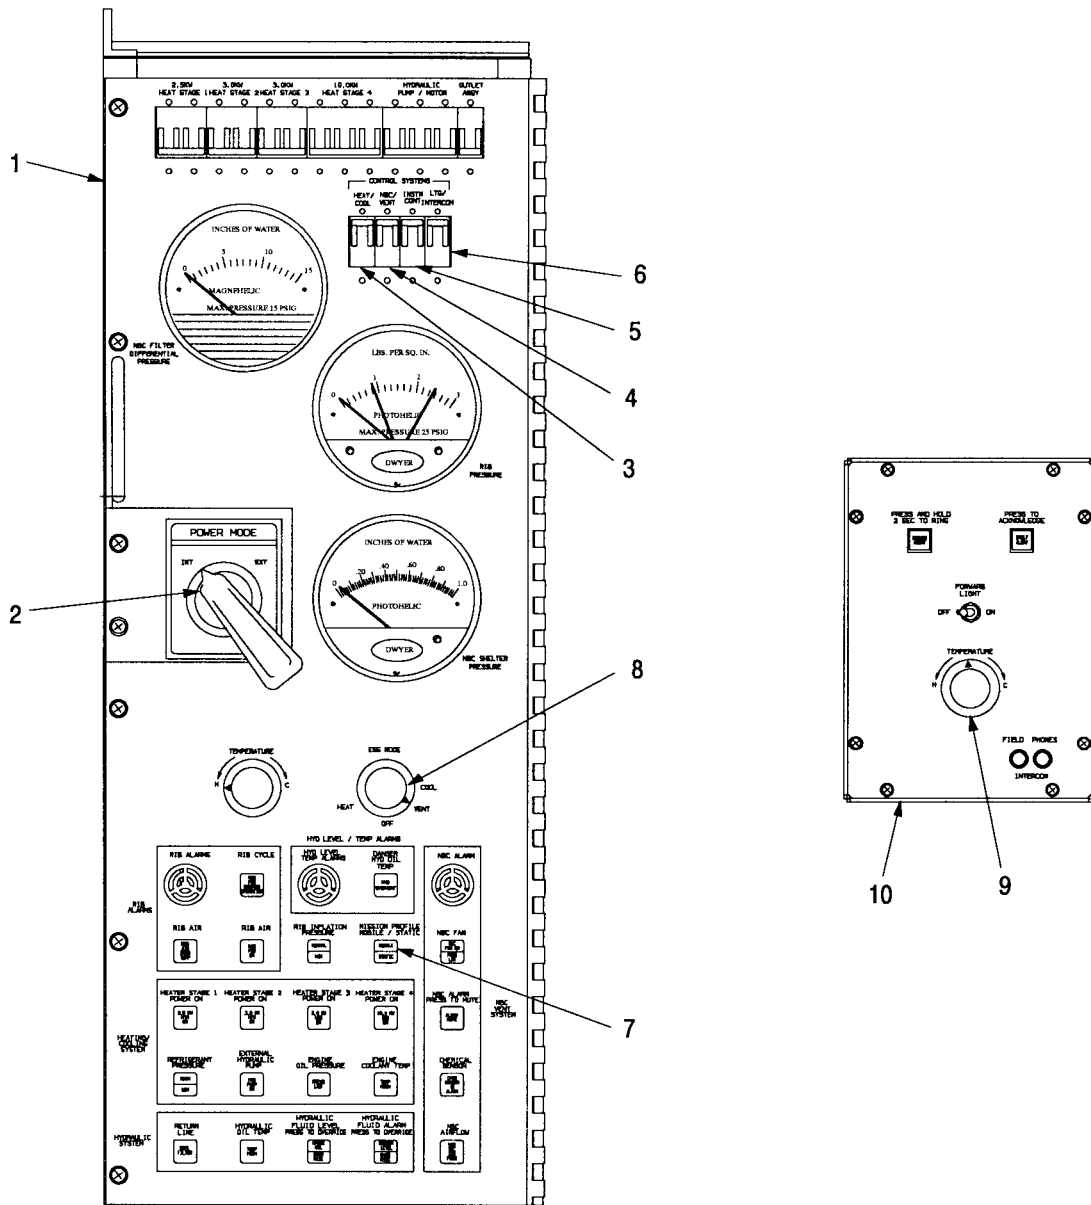

Figure 2-3. Rear Control Panel Settings in Mobile Mode
- (1) On rear control panel (1, figure 2-3), set POWER MODE switch (2) to INT and the following circuit breakers on rear control panel to ON:
- HEAT/COOL (3)
- NBC/VENT (4)
- INSTM CONT (5)
- LTG/INTERCOM (6).
- (1) Set ESS MODE selector switch (8, figure 2-3) to OFF.
- (2) Set lights to OFF (if necessary).
- (3) On rear control panel (1), set circuit breakers (3 through 6) to OFF.